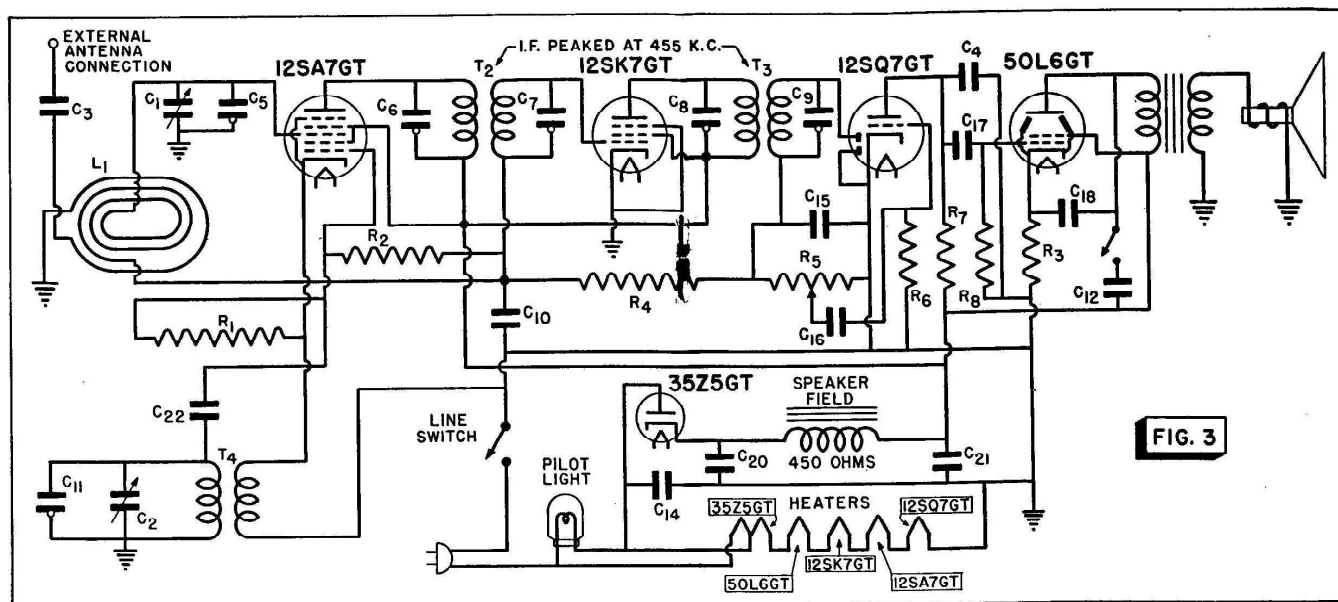

FIG. 3
Circuit Disturbance with a Voltmeter. Unfortunately, the foregoing simple tests cannot be used on an a.c.-d.c. set like the one in Fig. 3. (Since you will refer to it
several times in this Booklet, Fig. 3 has been placed on pages 10 and 11 for convenience.) The tubes in this set have no grid caps and cannot be pulled out (since their filaments are in series), so some other method of disturbing the circuit must be used.
One handy way of doing this is to measure voltages in the set with a voltmeter. Since the meter draws current, it disturbs the circuit enough to permit location of the defective section and stage; at the same time, the meter indication can often be used to locate the defective circuit or part directly. We will describe the complete test procedure for the a.c.-d.c. set shown in Fig. 3. The same general method can also be used to test a straight a.c. receiver if you wish.
► Assuming your original test shows that the audio and power supply sections are all right (that is, you hear a buzz when you touch the 12SQ7 grid), use the voltmeter to check in the r.f.-i.f. section. Using Fig. 3 as our example again, touch the positive voltmeter probe to the plate of the 12SK7 i.f. tube, and the negative probe to the chassis. You should find plate voltage and
► The signal generator can be used to test any receiver. For a specific example, let's take the a.c.-d.c. receiver shown in Fig. 3. Prepare the receiver for testing in the manner described earlier for the voltmeter tests. Be sure to turn it on. For the first test, connect the signal generator (s.g.) ground lead to the chassis of the receiver, and connect the other s.g. lead or probe (known as the free or hot probe) to the plate socket terminal of the i.f. tube. This injects a signal into the primary of the second i.f. transformer (see Fig. 3), whence it is
induced in the secondary of the transformer and is applied to the second detector. Set the s.g. to the i.f. value of the receiver (456 or 465 kc. in most modern a.m. receivers), and advance the attenuator (volume control) of the s.g. to maximum output. If no tone is heard, transformer T_3 or the diode section of the 12SQ7 tube is defective. (Condenser C_8 or C_9 may be shorted.) If the tone is heard from the loudspeaker when the s.g. is connected to the plate of the i.f. tube, the second detector and the audio section are good. Next, move the hot probe of the signal generator from the plate of the i.f. tube to its top cap (if it has one) or to the plate of the preceding tube. (This is the first detector in Fig. 3. However, in many sets there are two i.f. stages, so you would move back to the first i.f. stage in these sets.) The signal from the loudspeaker should remain the same volume as before, or become louder. If it *disappears* or becomes *considerably weaker*, the i.f. stage is defective. Test the tube and check the voltages applied to its electrodes, particularly the screen-grid voltage.
A signal tracer can be used to follow the signal from the input of the set to determine where it is interrupted. The signal tracer method is perhaps not quite as fast as some of the others if the defect is a common one, but it is much faster when some unusual trouble exists. Let's see how to use it. We'll assume you have a tracer that uses a meter or magic-eye indicator, and also has a loudspeaker so that you can hear its output. Also, we'll use the circuit shown in Fig. 3 as an example again.